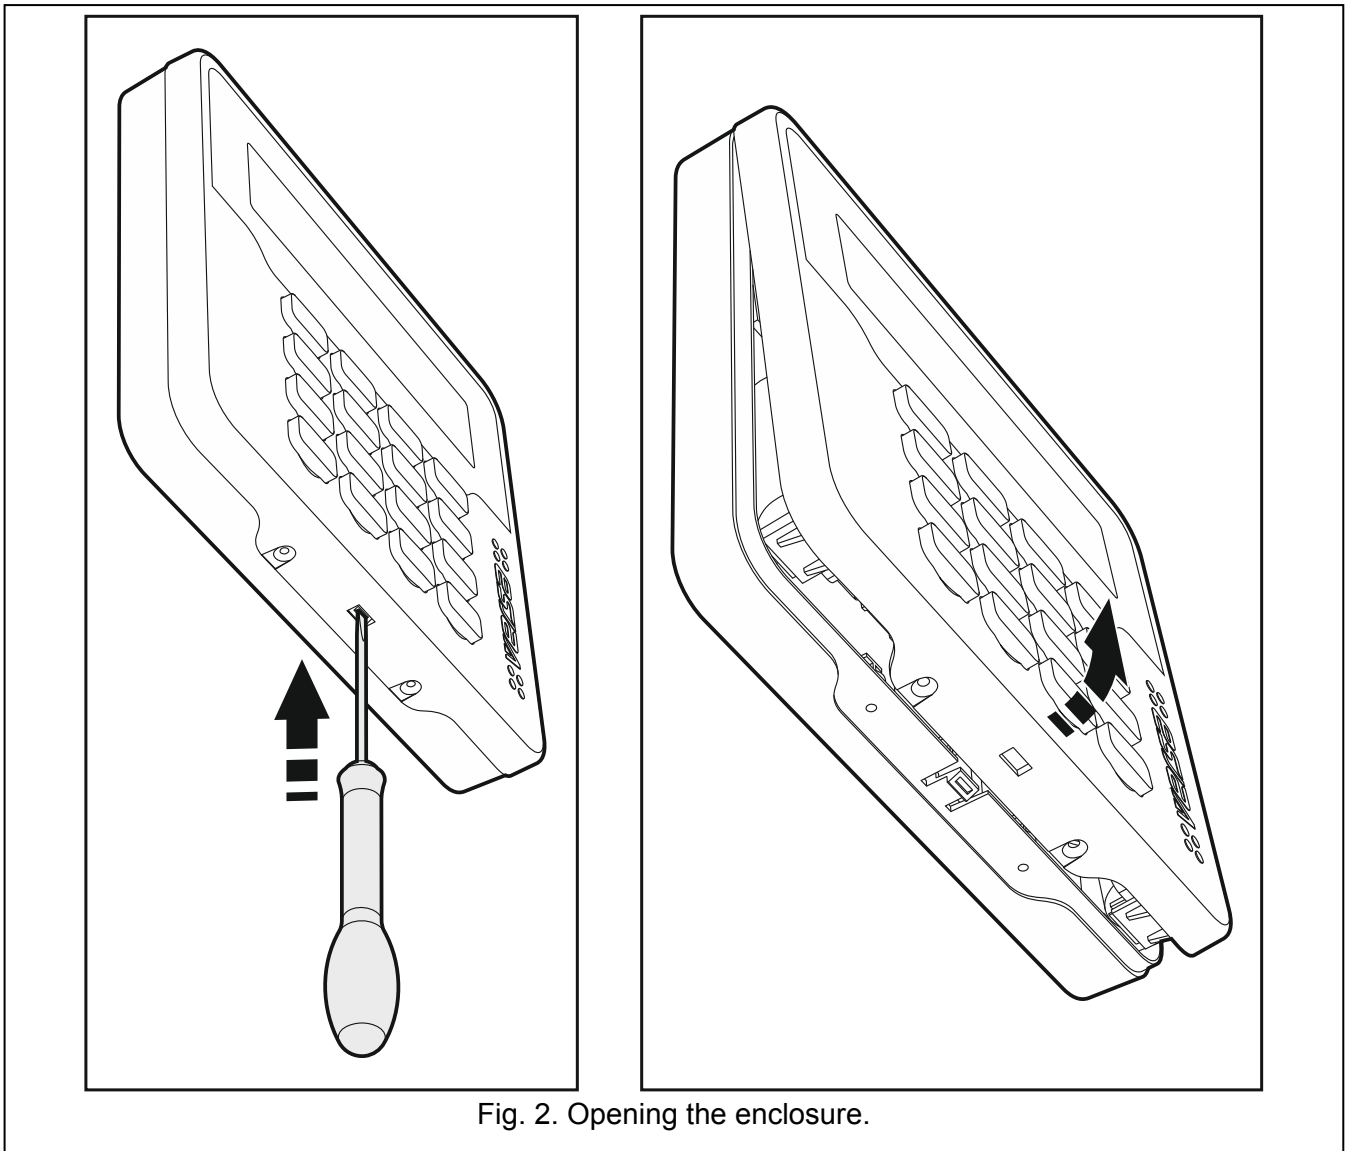

Fig. 2. Opening the enclosure.
1. Open the keypad enclosure (Fig. 2).
6. Open the keypad enclosure (Fig. 2).